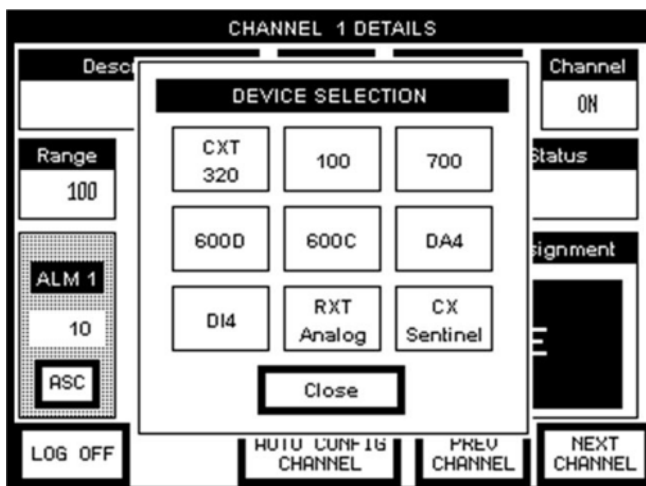

Figure 68 Device Type Selection
- The sensor/device can be input manually by selecting the Device Type. This will open a window that will allow the user to select the type of device that is being attached (Figure 68). The controller will then try to communicate with the appropriate sensor or I/O module.